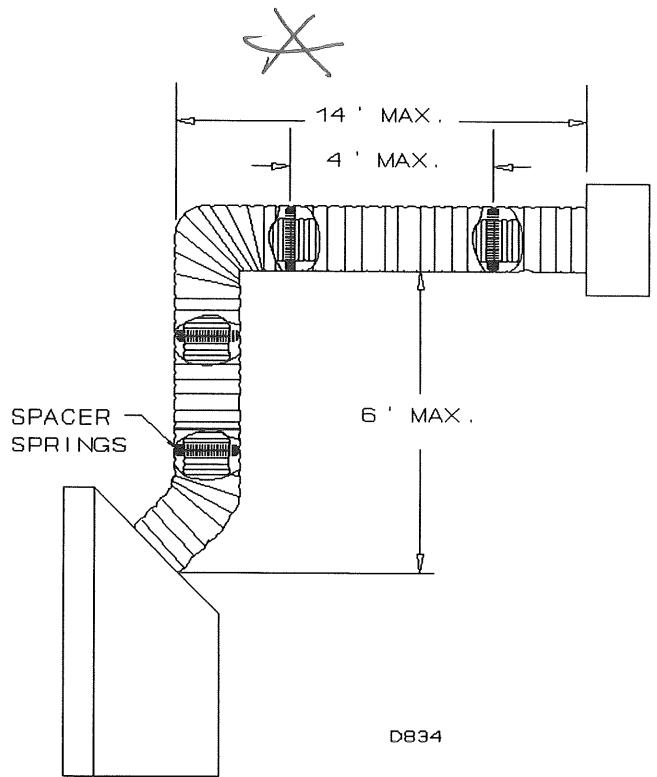

Figure 5
* All above dimensions are based from the bottom of the fireplace's outer pipe (See **Figure 5**).
- 2) Refer to **Figure 5** for spacer springs installation.
- 4) Elbow bend must have one spring on each side of the bend as shown in **Figure 5**.